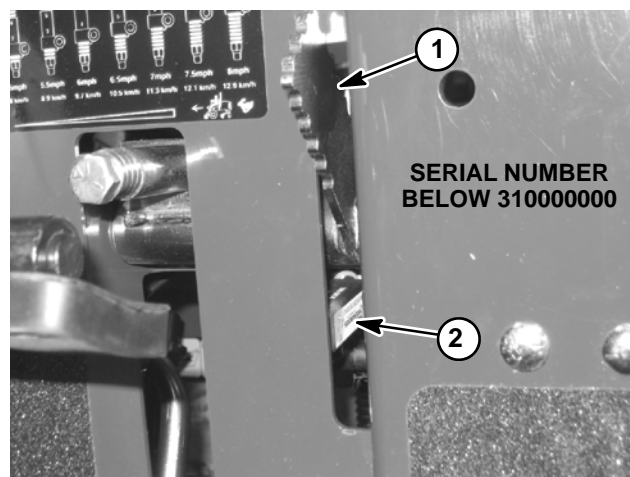

Figure 41
2. On machines with serial numbers below 310000000 (Fig. 41), test mow/transport switch as follows: